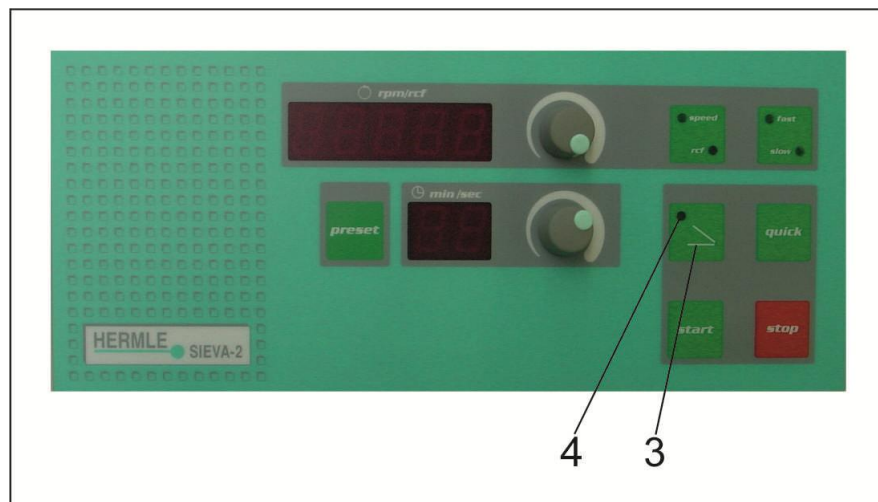

figure 1
Press key "lid" (3) (see figure 1) to open the lid. The green control lamp will extinguish as soon as the lid will be opened or the unit started.